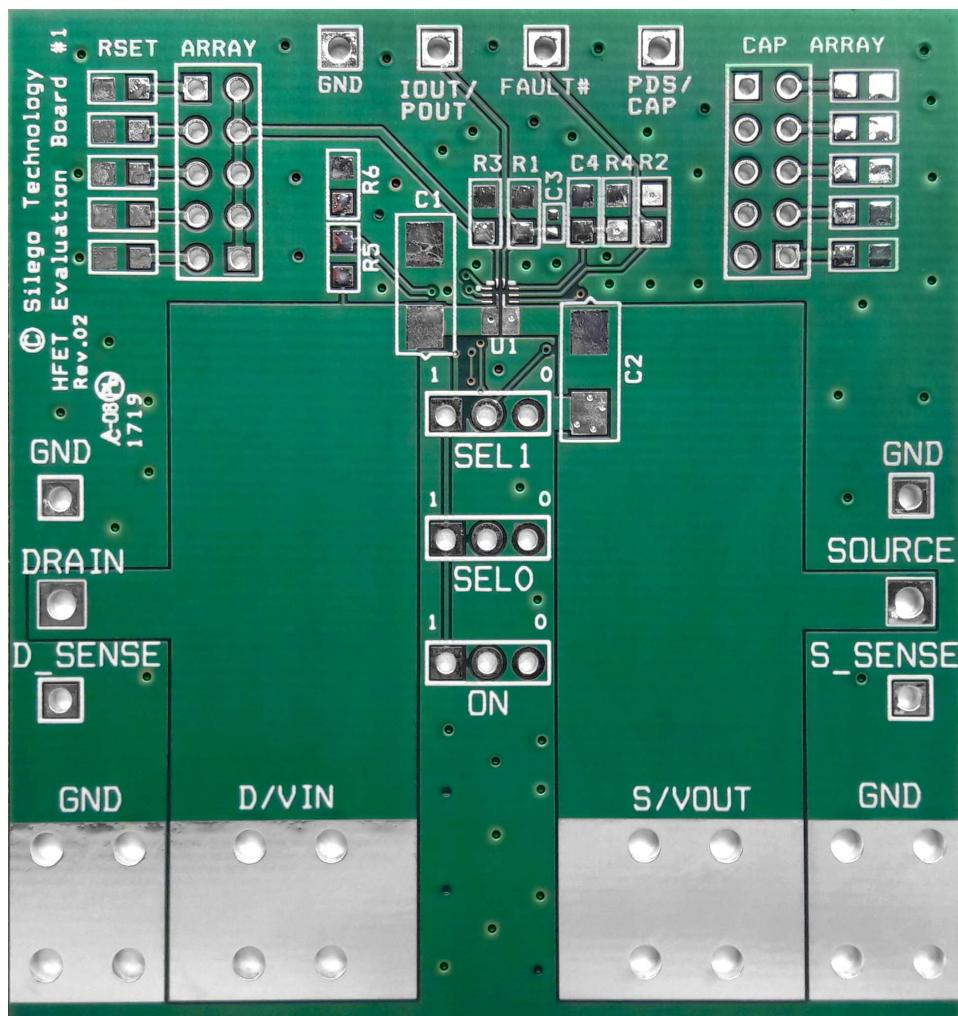

Figure 26. SLG59H1017V Evaluation Board
1. Since the VIN and VOUT pins dissipate most of the heat generated during high-load current operation, it is highly recommended to make power traces as short, direct, and wide as possible. A good practice is to make power traces with absolute minimum widths of 15 mils (0.381 mm) per Ampere. A representative layout, shown in Figure 26, illustrates proper techniques for heat to transfer as efficiently as possible out of the device;
A High Voltage GreenFET Evaluation Board for SLG59H1017V is designed according to the statements above and is illustrated on Figure 26. Please note that evaluation board has D_Sense and S_Sense pads. They cannot carry high currents and dedicated only for $R_{DS\text{ON}}$ evaluation.